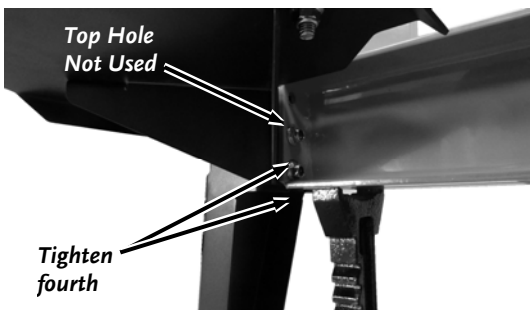

Figure 7
4. Fourth, tighten the four Bolts and Locknuts that secure the Frame Stand and Support Brackets to the Beam (**Figure 7**).